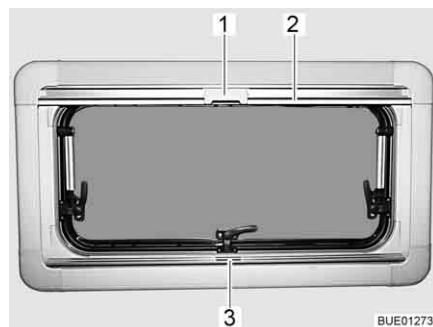

Fig. 83 Hinged window
- Grip the Roman shade using the holding bar (Fig. 83,3), pull it from the bottom to the top and then release it at the desired height. The Roman shade will stay at this height.
Closing: ■ Pull the insect screen down using the holding bar (Fig. 83,2), until it touches the holding bar of the Roman shade (Fig. 83,3).
■ Clip the catch (Fig. 83,1) on the insect screen into the handle of the Roman shade.
Opening: ■ Push the catch (Fig. 83,1) on the insect screen inwards.
■ Move the insect screen back slowly on the holding bar (Fig. 83,2).